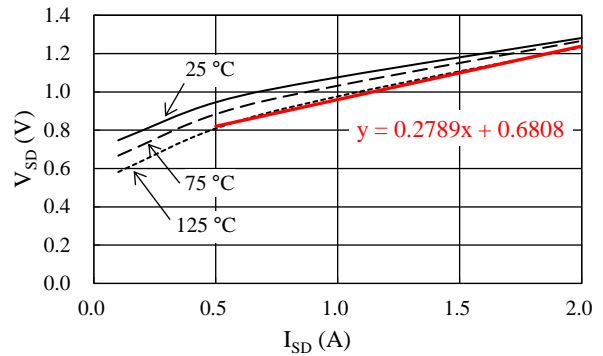

Figure 14-2. Linear Approximate Equation of  $V_{SD}$  vs.  $I_{SD}$
Steady-state loss in the body diode of a power MOSFET can be computed by using the  $V_{SD}$  vs.  $I_{SD}$  curves, listed in Section 15.3.1. As expressed by the curves in Figure 14-2, a linear approximation at a range the  $I_{SD}$  is actually used is obtained by:  $V_{SD} = \alpha \times I_{SD} + \beta$ . The values gained by the above calculation are then applied as parameters in Equation (6), below. Hence, the equation to obtain the body diode steady-state loss,  $P_{SD}$ , is: